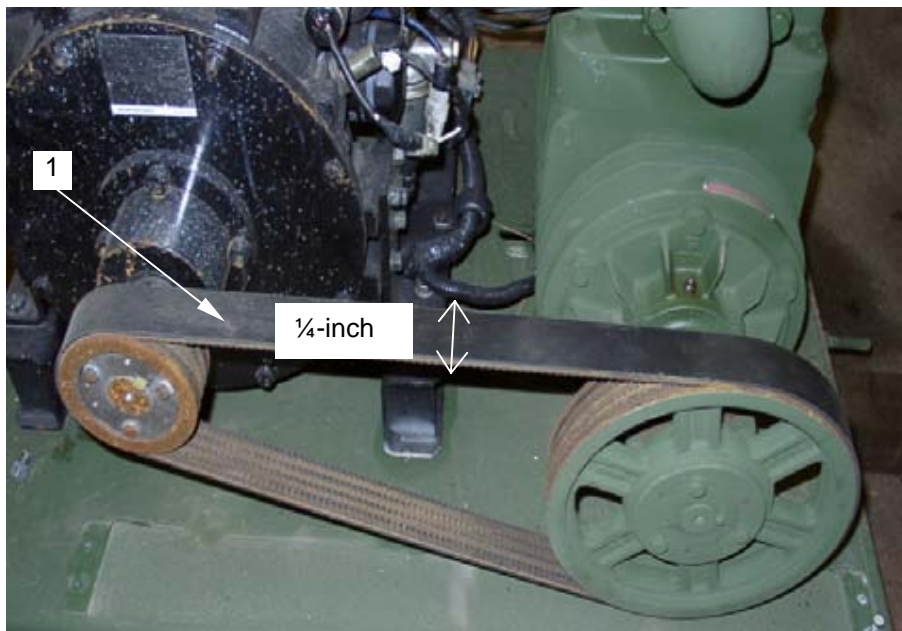

Figure 4. Drive Belt
- Tighten drive belt (**figure 4, item 1**) until ¼-inch of belt deflection is measured.